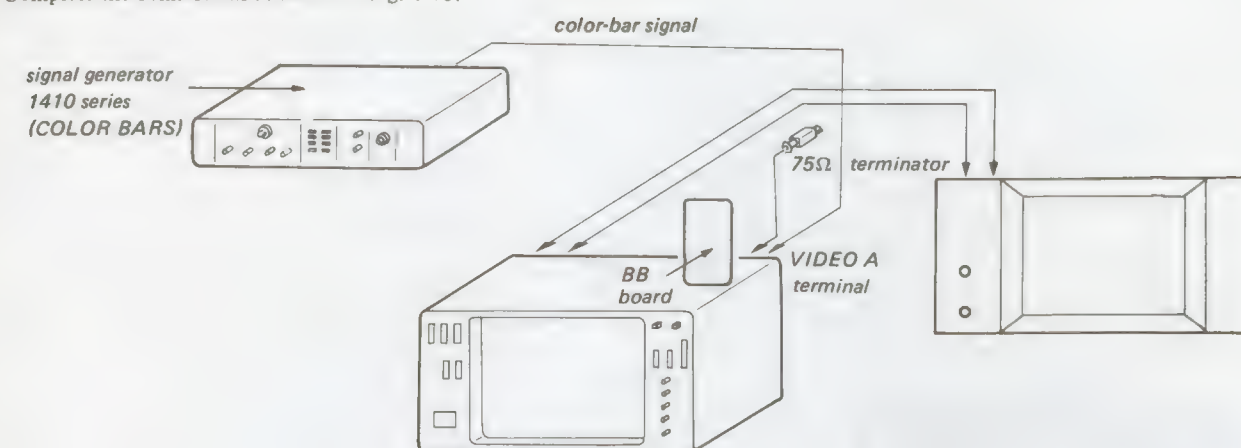

Fig. 5-73.
1. Complete the connections as shown in Fig. 5-73.